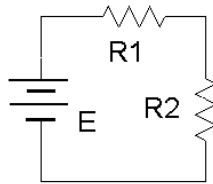

Figure 3A.2
- Figure 3A.1 is a photo of the face of a Tektronix MDO 3000 series oscilloscope. Compare this to the bench oscilloscope and identify the following elements:
6. Build the circuit of figure 3A.2 using $E=10\text{ V}$, $R_1=10\text{ k}\Omega$ and $R_2=33\text{ k}\Omega$. Connect a probe from the channel one input to the power supply (red or tip to the positive terminal, black clip to ground). Connect a second probe from channel two to R_2 (again, red or tip to the high side of the resistor and the black clip to ground).